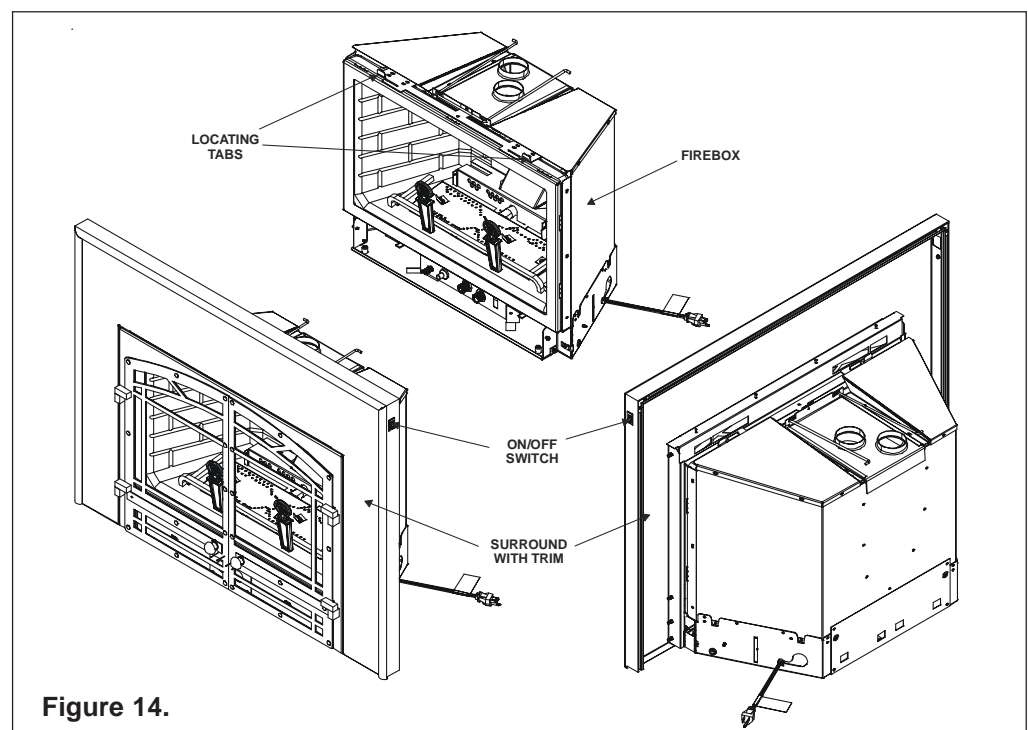

Figure 14.
1. Find the coiled low voltage wires and ON/OFF switch attached to outer right side of the insert (see Figure 14).
4. Attach surround assembly by securing four corners with screws provided (see Figure 14.) Reposition the fireplace if necessary. Refer to surround instructions provided with the decorative surround.